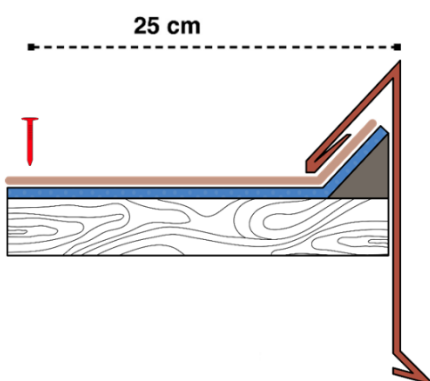

Fig. 5 - Lateral flashing detail with triangular wooden batten
- Alternatively, fix a triangular-section batten along the lateral edge of the roof, before the membranes/underlay. Position the membrane/underlay above the triangular batten and lay the shingle on top, cutting it at the vertex of the batten. Once the pitch is completed, apply a perimeter metal flashing over the shingles. - Fig. 5.